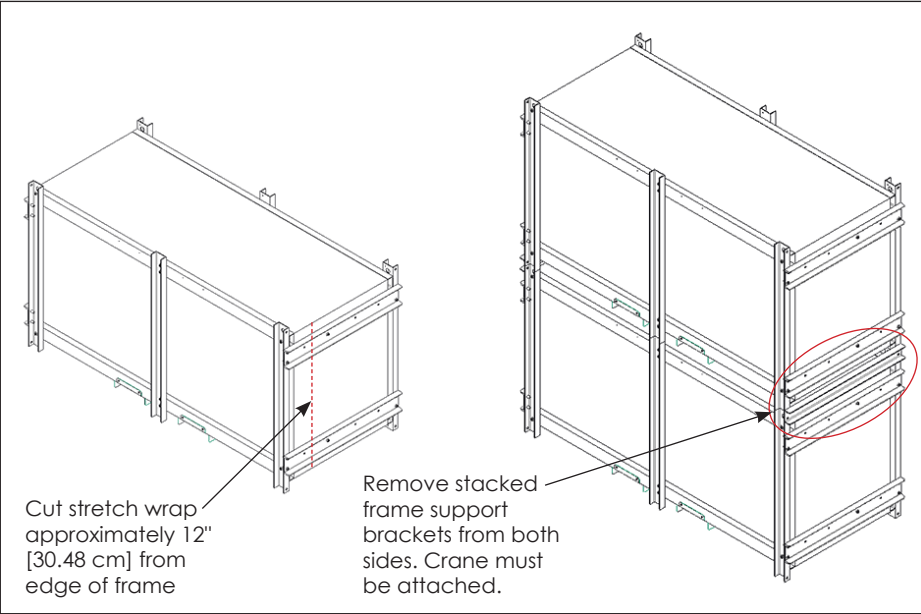

Figure 3: Stretch Wrap & Stacked Frame Support
1. Remove the M12 hardware from the stacked frame support brackets on the frames to separate the top and bottom frames (if applicable). Unstack the frames and remove the stretch wrap and the top horizontal runners from the frames. Refer to **Figure 3**